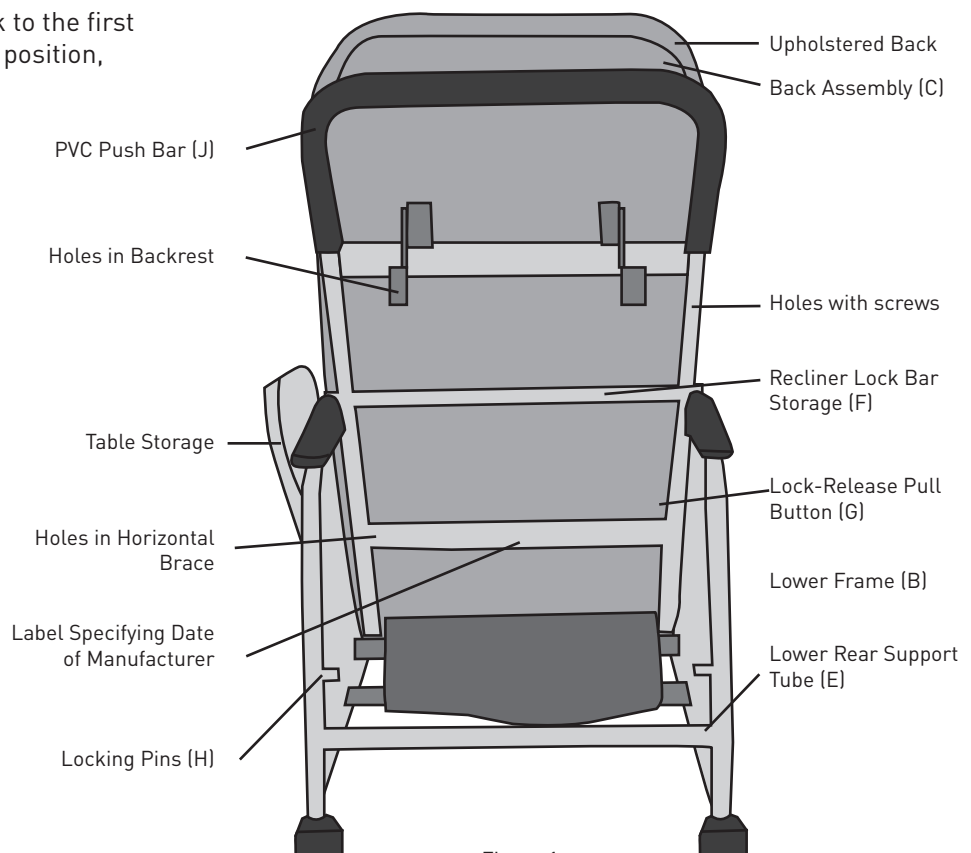

Figure 1
1. Ensure that recliner lock bar is in stored position. See Fig. 1.
3. Grasp armrest with one hand, and PVC push bar (J).
6. Set recliner Lock Bar (F).